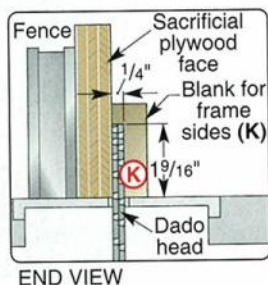

Fig. 4
1 CUT A BLANK $\frac{3}{4}$ X $1\frac{3}{4}$ X 30" FOR THE FRAME SIDES (K). Referring to **Figure 4**, set up your table saw to cut a rabbet in the blank.